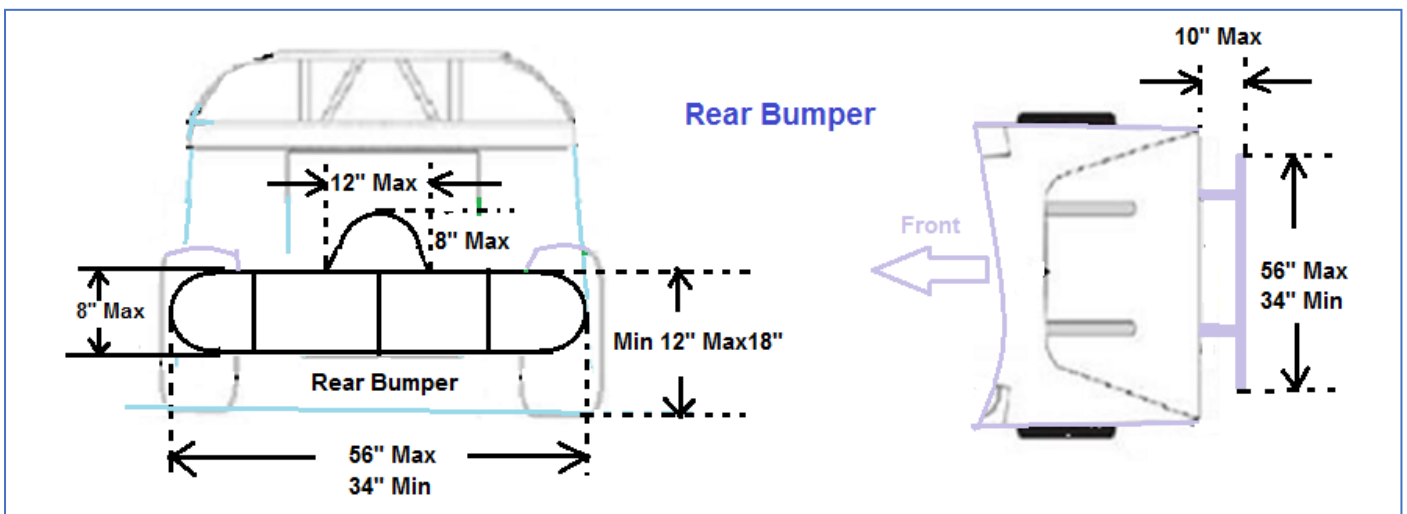

Figure 12
**16.2** Rear bumper maximum width 56 inches or minimum width 34 inches. Rear bumper must have two horizontal bars combined with a minimum of three vertical sections that form a continuous hoop (no protrusions outside of this hoop). Rear bumper max height between outermost edges of horizontal bars is 8 inches. The distance from the ground to the top of the rear bumper must be 12 inches minimum or 18 inches maximum. Rear bumper must not extend more than 10 inches behind rear-most point of the body panels (*Figure 12*).
**16.3** A hoop is allowed on the top side of the rear bumper bar no wider than 12 inches and a maximum of 8 inches high. Must be manufactured from the same material as the rear bar and welded in place. This is an option for push car protection only (*Figure 12*).